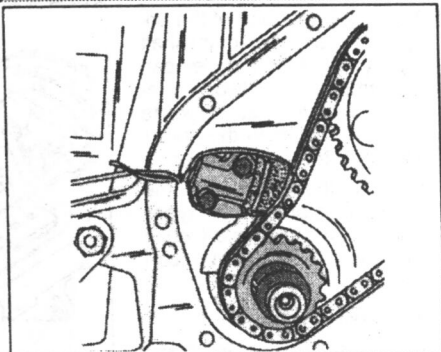

Fig. 1.21. — A Renold chain tensioner must be tied together with a piece of wire before it can be removed from the cylinder block.
- This type of chain tensioner has no locking mechanism. It must therefore be locked mechanically, before it is removed. You require a piece of wire to lock the tensioner as shown in Fig. 1.21. Make sure the end is twisted securely.